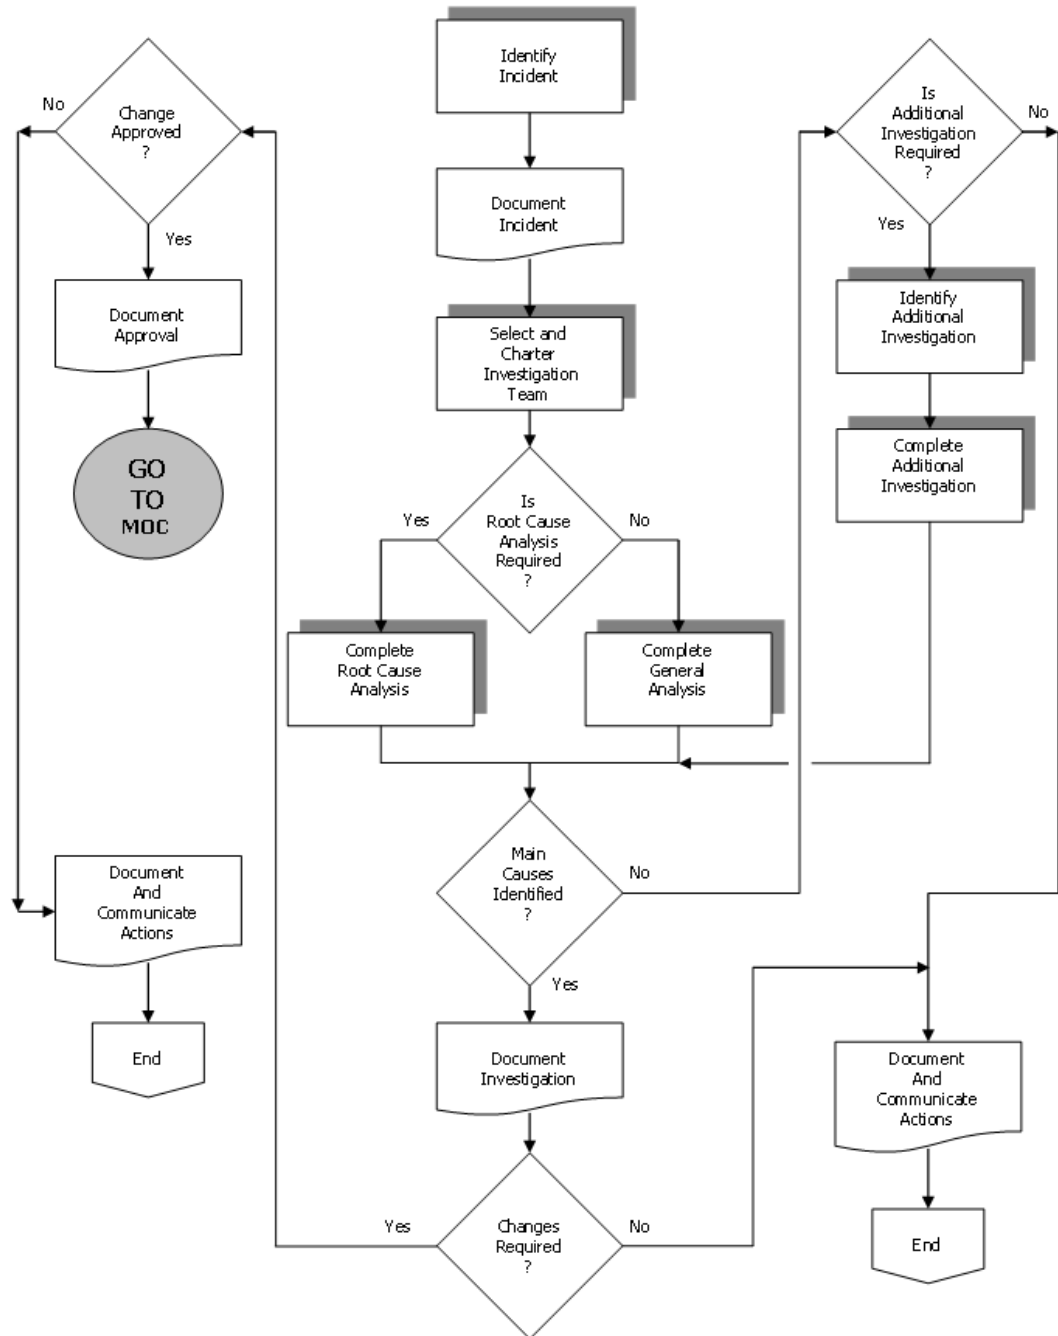

Figure 2
- System to Develop Response Plan (Figure 2)
The **System to Develop Response Plan** (Figure 2) identifies the tasks to be undertaken with related performance expectations and metrics. The flowchart illustrates the activities associated with assigning responsibility, authority and accountability and the development of the required timetables. While applied to commodity movements in this example, the process is more broadly applicable to the analysis of any incident. In the example, responses to regulatory agencies are key.